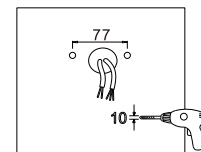

Figure 19
**4. FLOOD MOUNTING (FM)**
Step 1: Drill holes on the wall as shown. (Figure 19)